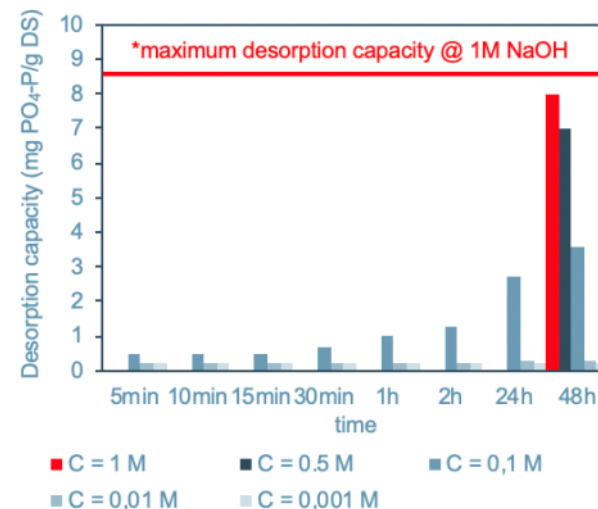

Figure 1: Influence of NaOH concentration and desorption time.
- Figure 1:** A minimum desorption time of 24 hours and a NaOH concentration of 0.1 - 1M is necessary to ensure a sufficiently high desorption efficiency.